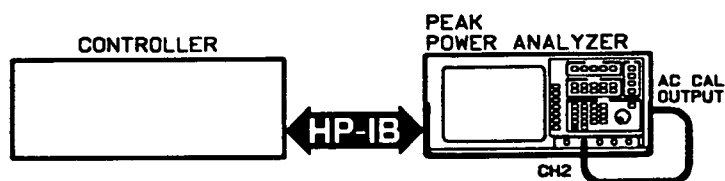

Figure 2-12. Logic Trigger Delay Calibration Setup
1. Set the address of the Peak Power Analyzer to seven (7) using the following steps:
4. Connect the equipment as shown in figure 2-12.